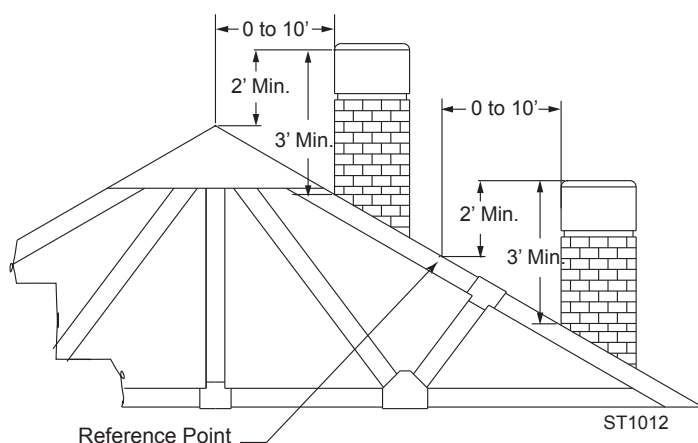

**Figure 5 -
3. The chimney should extend at least 3' (914 mm) above the highest point where it passes through the roof, and at least 2' (610 mm) higher than any portion of a building within 10' (3 m). *Figure 5*